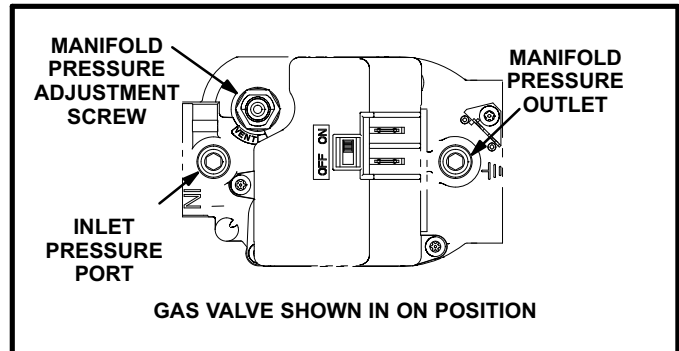

FIGURE 51
Gas Valve Operation (Figure 51)
- 6 - Move gas valve switch to **OFF**. See figure 51.
- 8 - Move gas valve switch to **ON**. See figure 51.
When testing supply gas pressure, use the 1/8" N.P.T. plugged tap or pressure post located on the gas valve to facilitate test gauge connection. See figure 51. Check gas line pressure with unit firing at maximum rate. Low pressure may result in erratic operation or underfire. High pressure can result in permanent damage to gas valve or overfire.